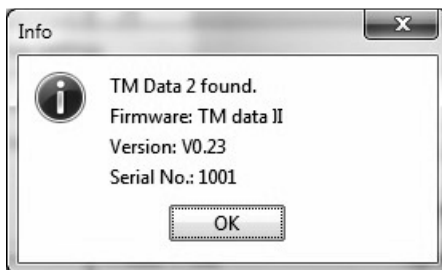

Fig. 5: Software response after positive test connection to the TM data II, in the example with serial number 1001 and for firmware version 0.23.
- Click 'Test connection'. If operational, the system responds as in Fig. 5. Confirm by clicking 'OK'.